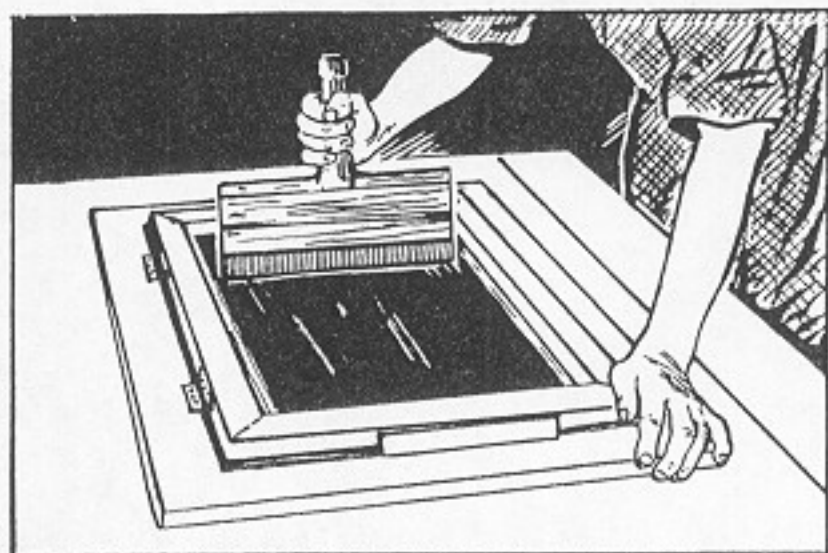

Fig. 77. Adhere Paper to Screen With Heavy Paint
5. Lower the screen frame, add heavy paint and pass the squeegee across the screen. The paint acts as the adhering agent for the paper stencil, Fig. 77.